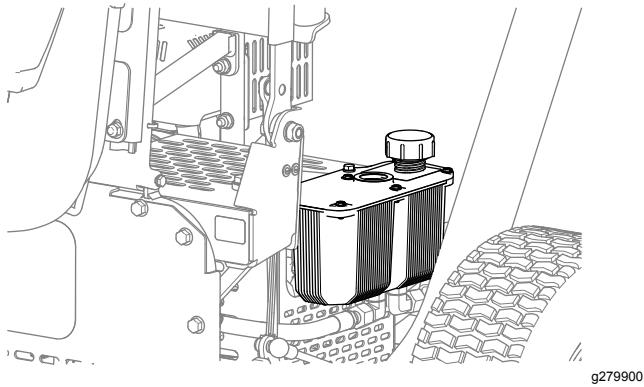

Figure 38
2. Remove the hydraulic-reservoir cap (Figure 38).
4. Install the reservoir cap (Figure 38).